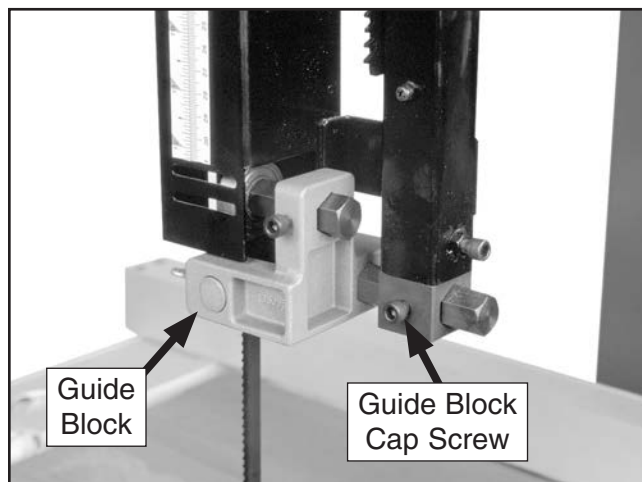

Figure 51. Back of upper blade guides.
4. Loosen the guide block cap screw shown in **Figure 51**.